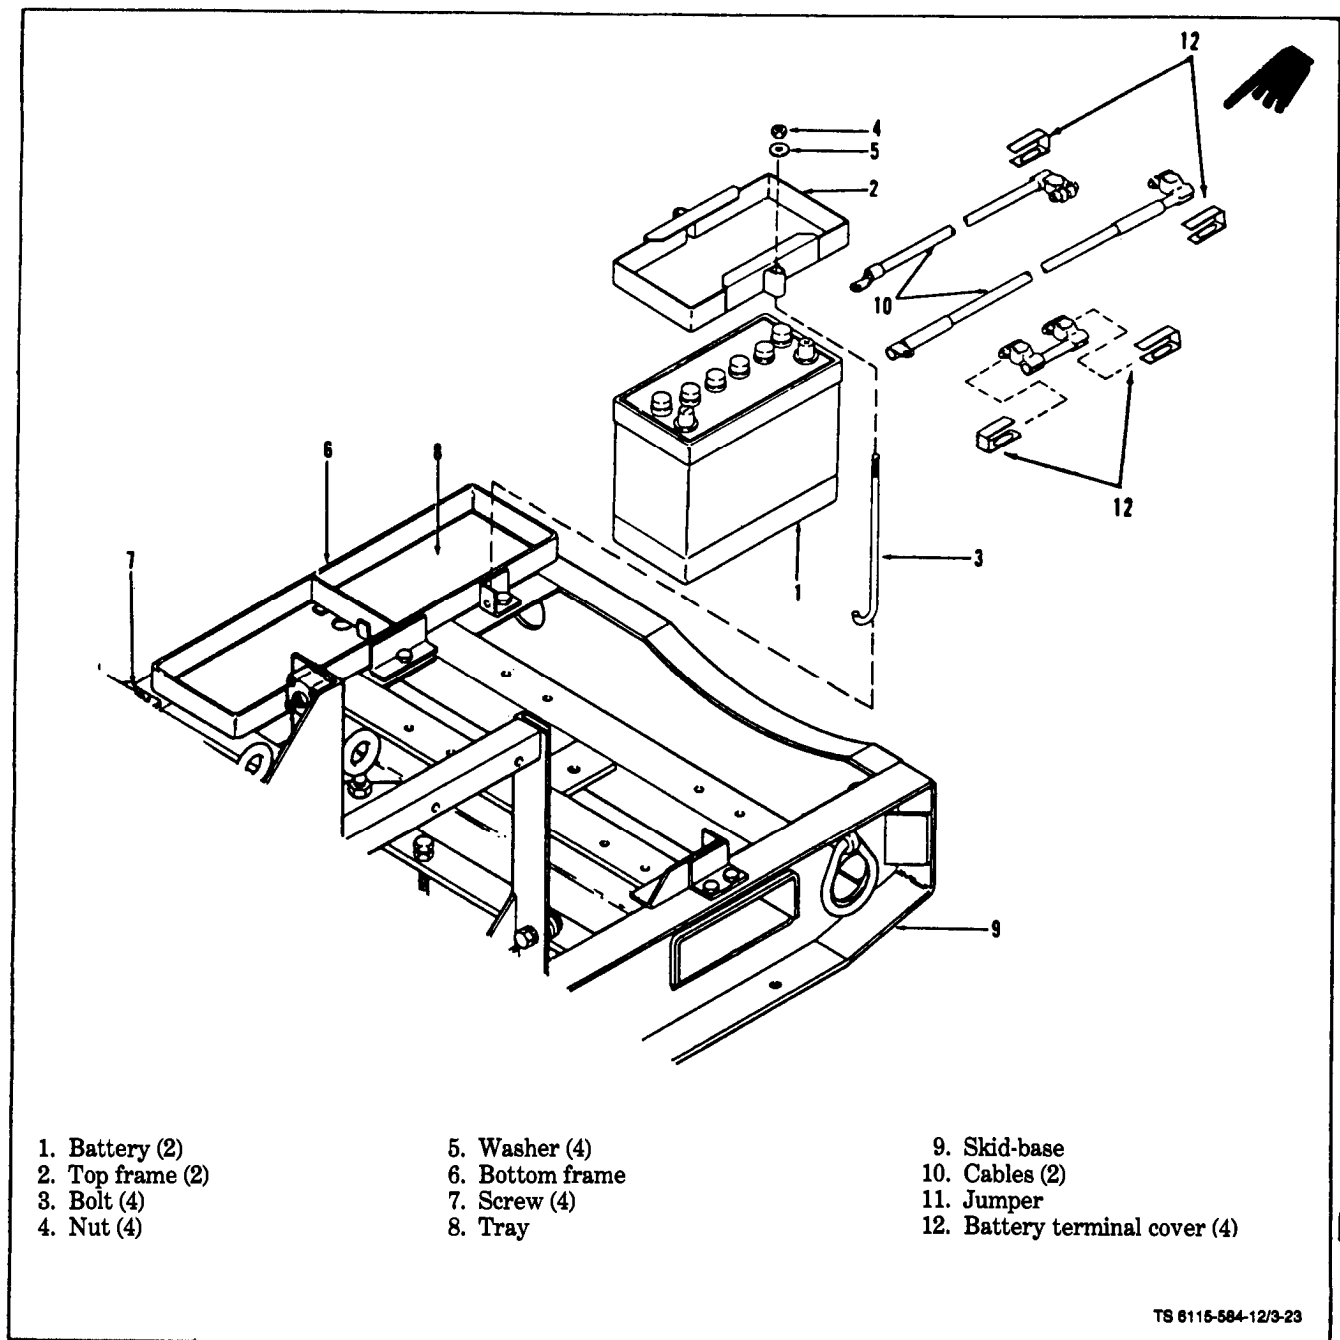
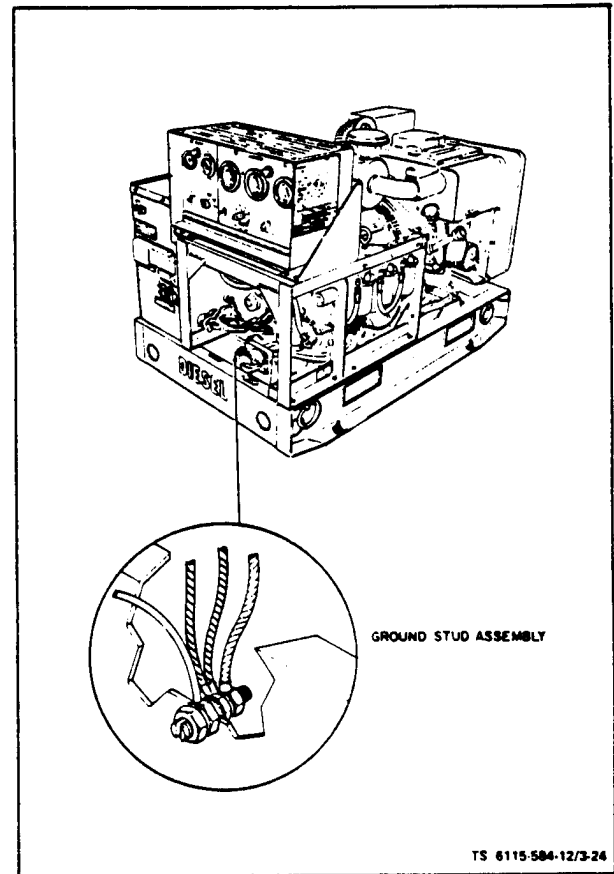

Figure 3-23. Battery and Frame
Figure 3-24. Ground Stud
a. Inspect (see figure 3-23).
(1) Battery Frame Bottom. On ASK equipped generators, remove BATTERIES access door. Inspect battery frame bottom (6) for dents, cracks, corrosion, or other physical damage. Check to see that battery frame bottom is free of corrosion.
(2) Battery Frame Top. Inspect battery frame top (2) for dents, cracks, corrosion, or other physical damage. Check to see that battery tray (8) is free of corrosion. Check that battery tray is securely attached to skid-base (9) with screw (7). Check that battery frame top (2) is securely attached to battery frame bottom (6) with hook bolts (3), nuts (4) washer (5).
(3) Inspecting Ground Stud (see figure 3-24). On ASK equipped generators, lift rear panel flap and inspect ground stud for deformed threads, corrosion, or other physical damage. Check that ground stud is securely attached to skid-base. Check that connections to stud are clean and tight.
(4) Inspect ground wire and ground rod for physical damage and check that connections are tight.